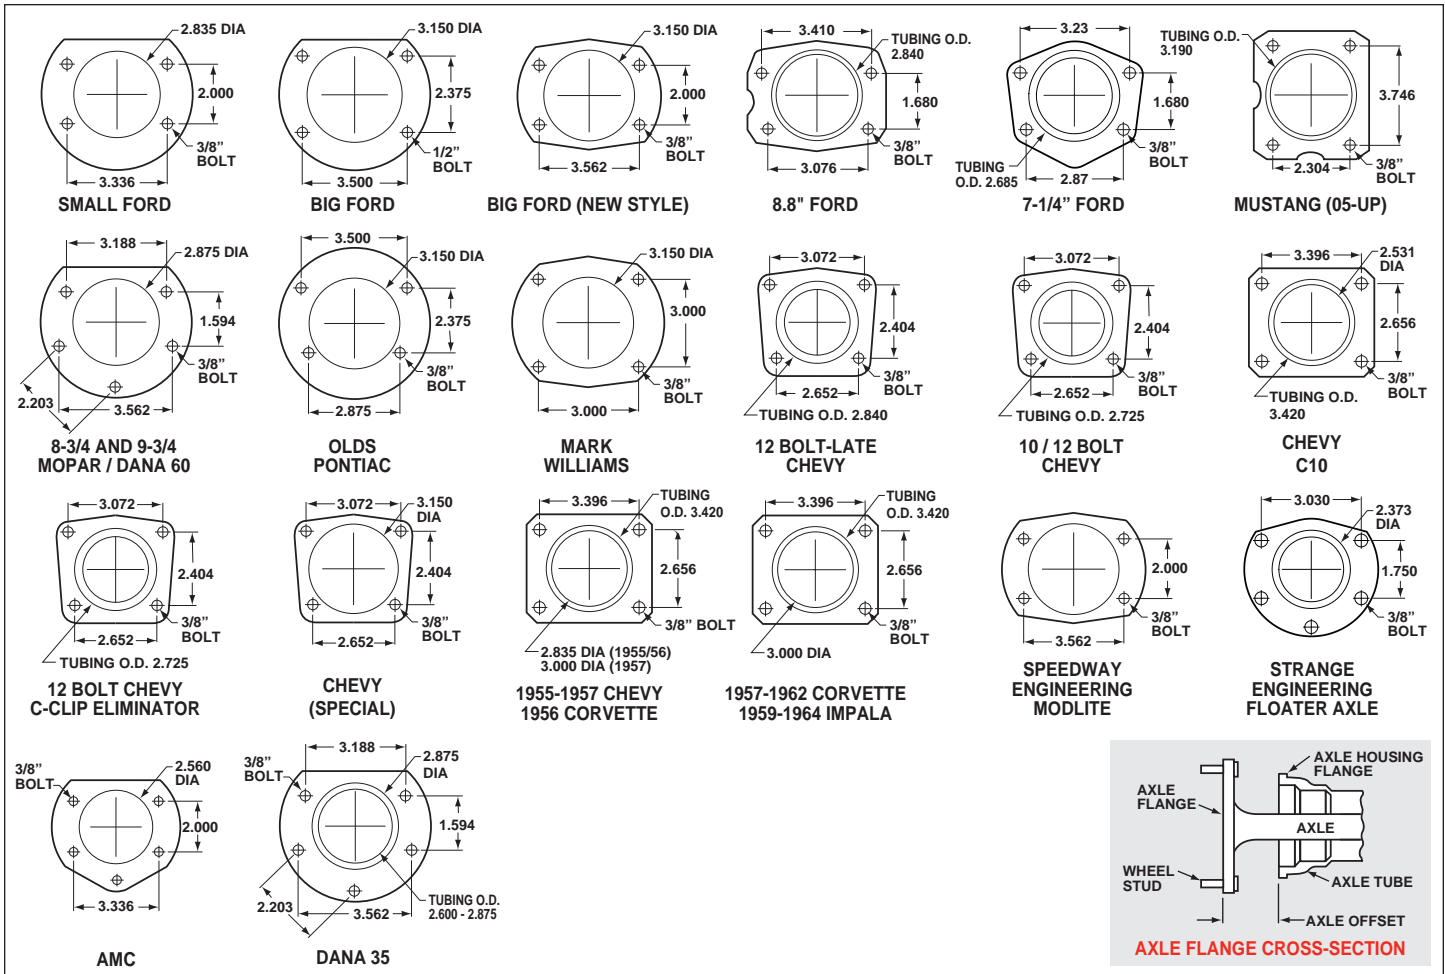

Figure 5. Rear Housing Flange Chart and Axle Flange / Offset Cross-Section
- Make sure this is the correct kit to fit the axle housing flange, not necessarily the rear end make. Many times aftermarket manufacturers put a different make of axle housing flange on the stock rear end housing (Figure 5). Example; Big Ford rear ends with Olds-Pontiac flanges, therefore, an Olds-Pontiac rear disc brake kit would be the correct kit to order. Also, shock clearance may be a problem. They may have to be modified and/or relocated to clear the Wilwood kit after final assembly.
- Dimension from wheel side of axle flange to wheel side of axle housing flange (see Figure 5, lower right hand corner). This dimension is critical to ensure proper alignment of the rotor to the caliper, and should match offset given in the kit description.